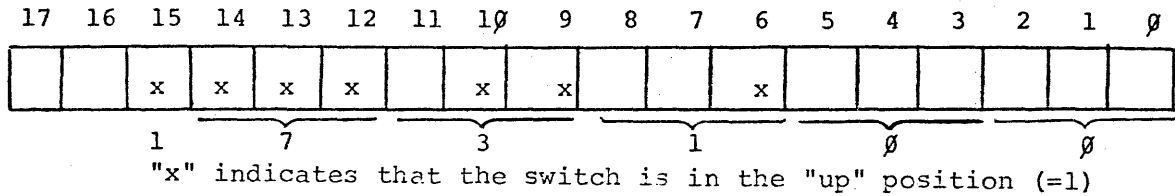

Figure 1-6 Console Switch
3. Set the Switch Register to 173100₈; (see Figure 1-6).